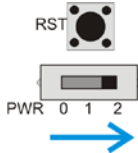

Figure 4-10
- ❑ Supply power to the board and servo header by setting the PWR switch to 2 as shown in Figure 4-10. Your servo may move a bit when you connect the power. If the board had a P14 blinking light program running from an earlier activity, the servo may also twitch when the light turns on/off. **If the servo "chatters", immediately turn off the power switch.**